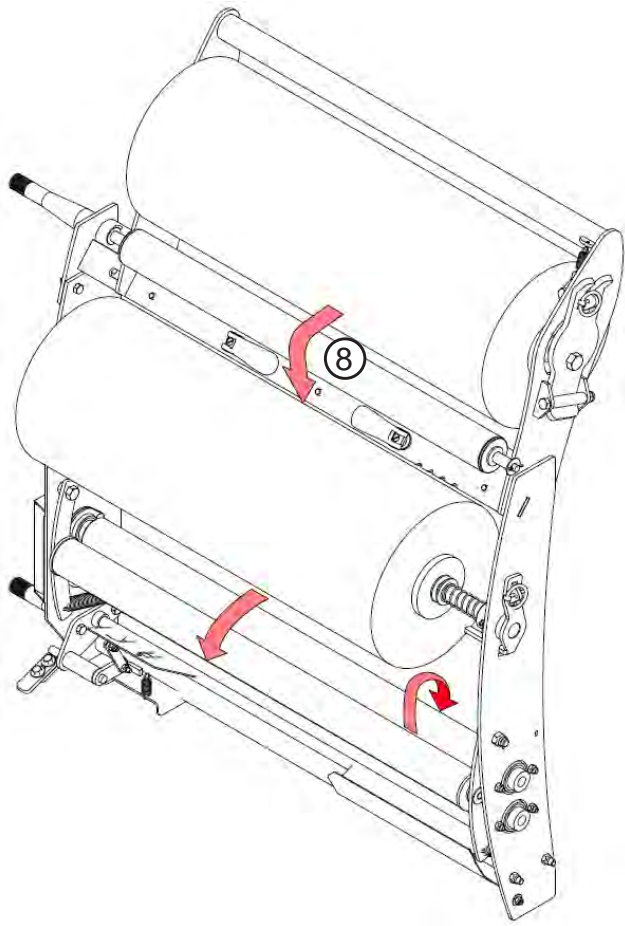

Fig.2
8. Route twin wrap plastic film over the roller and under the existing standard plastic film roll. See Fig.2.